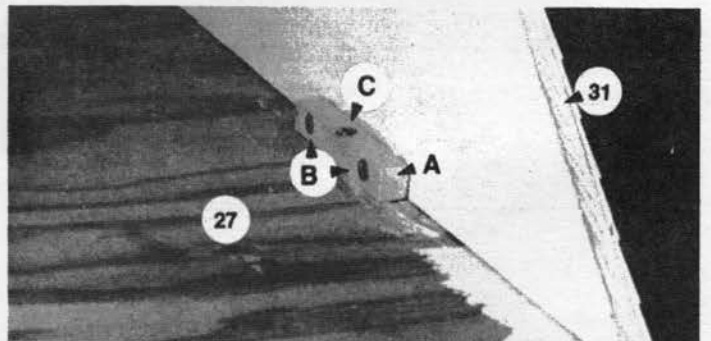

Fig. 13
Sometimes parts need to be assembled so that they may be separated again at will. In (**FIGURE 13**) the roof assembly is to be removable. To accomplish this use a block of white pine  $\frac{1}{2}$  inch by  $\frac{1}{2}$  inch by three inches long (A), attach this permanently to part 31 with two screws (B) and glue. Screw (C) will now hold the assembly in place until it needs to be removed.